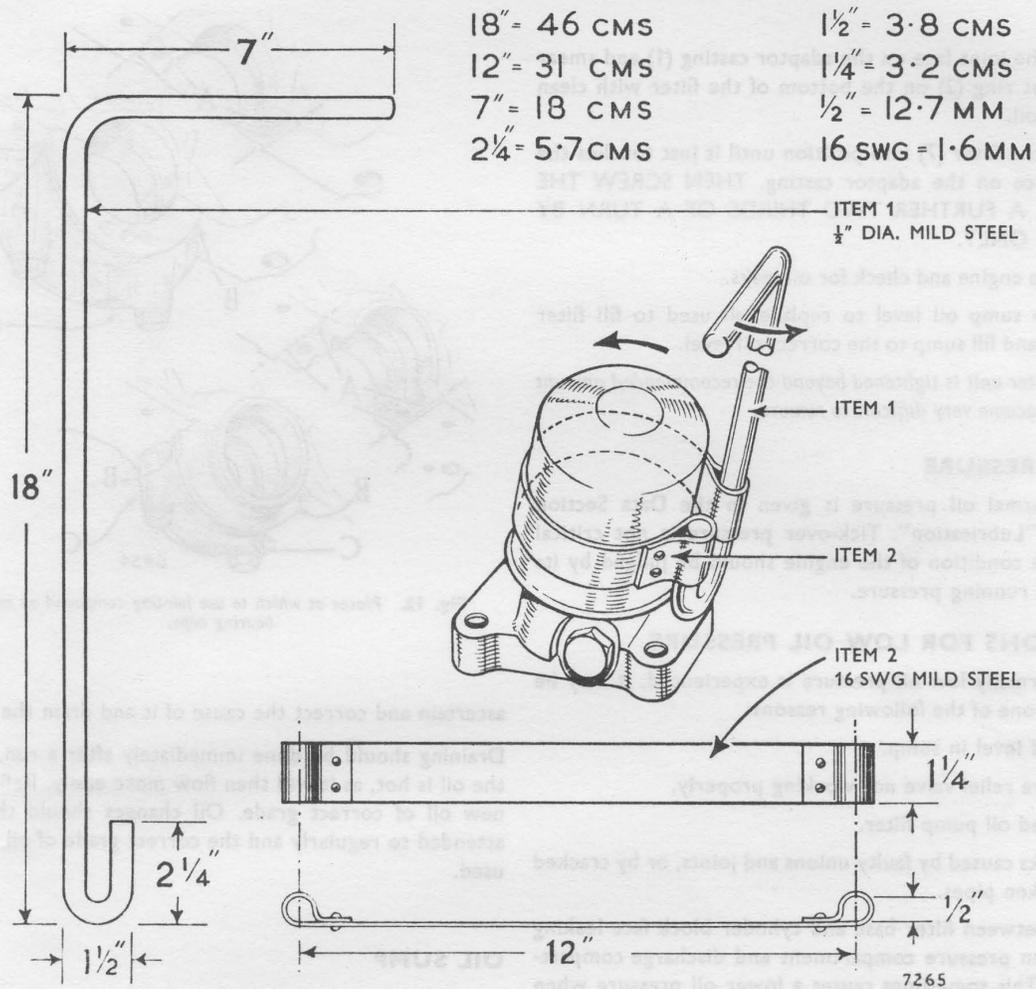

Fig. 11. Strap wrench—for removing throwaway oil filter.
The rubber joint ring (2) on the filter base tends to stick to the adaptor casting (1) joint face, and if the filter cannot be removed by hand it can be unscrewed with a strap wrench, which can be made from the particulars given in Fig. 11.